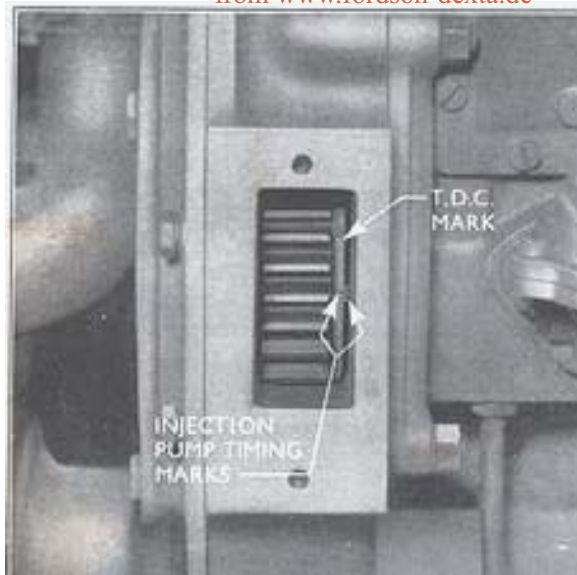

Fig. 7
2. Remove the fuel pump timing plate from the left-hand side of the timing case, and if the injection pump is correctly timed, the timing mark on the fuel pump drive gear adaptor should coincide with the timing pointer cast on the pump mounting flange (see Fig. 7). The timing mark on the adaptor must not be confused with a second mark immediately above it stamped " S " which corresponds with T.D.C.